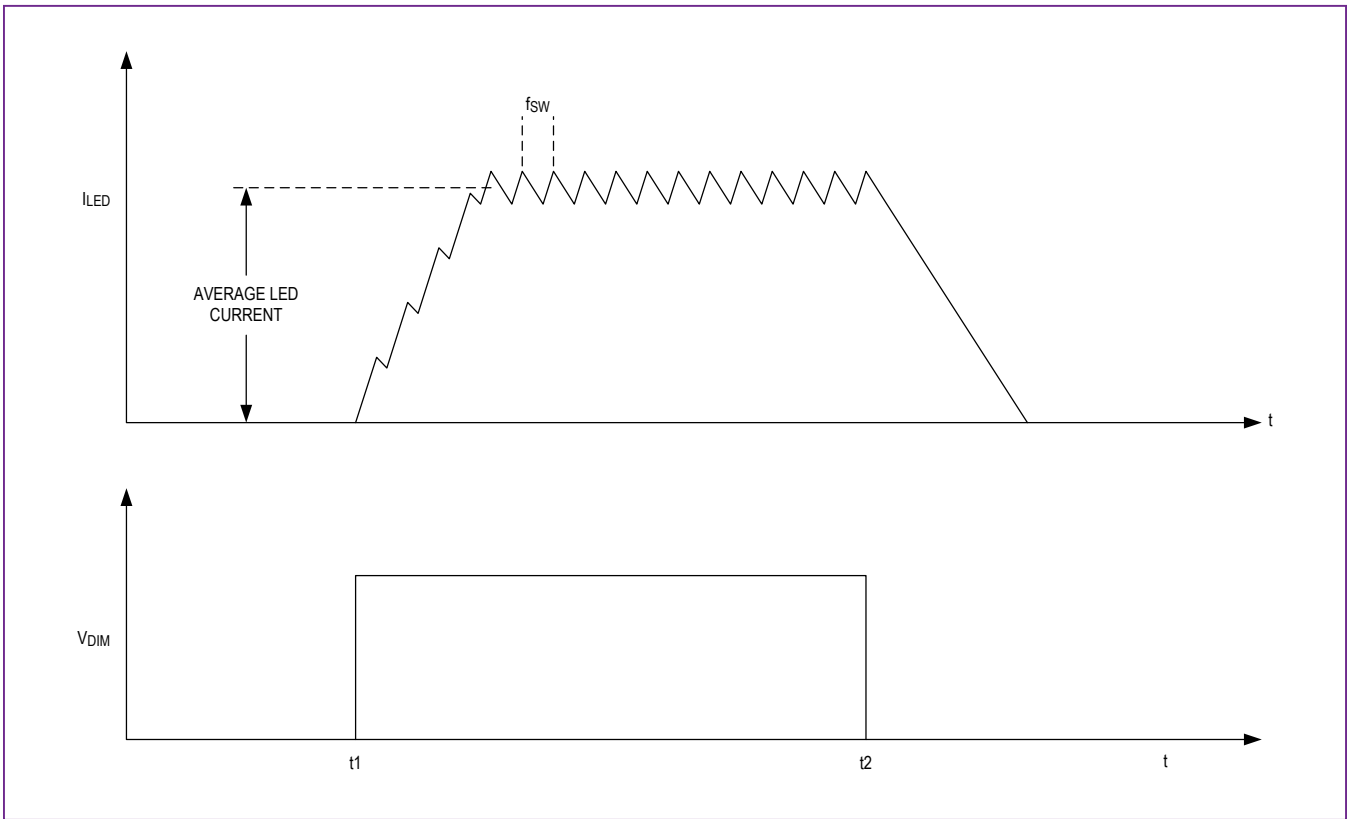

Figure 3. Operation During PWM Dimming When PWM Signal is Applied at PWM Pin
The DIM pin functions as the PWM dimming input of the LEDs. The DIM pin can be driven with a PWM signal that controls the dimming operation of the device. When the DIM signal is high, the switching of the synchronous MOSFETs in the buck LED driver is enabled, but when DIM goes low, both the high- and low-side MOSFETs are turned off. The LED current waveform is shown in Figure 3. The device goes into shutdown mode if the DIM input is below the ON threshold minus the hysteresis for 210ms. In shutdown mode, the input current is less than 5µA (typ).
- 1) Large switched currents flow in the IN and AGND/PGND pins and the input capacitor ( $C_{IN}$ ) of Figure 3. The loop formed by the input capacitor should be as small as possible by placing this capacitor as close as possible to the IN and AGND/PGND pins. The input capacitor, device, output inductor, and output capacitor should be placed on the same side of the PCB, with the connections made on the same layer.